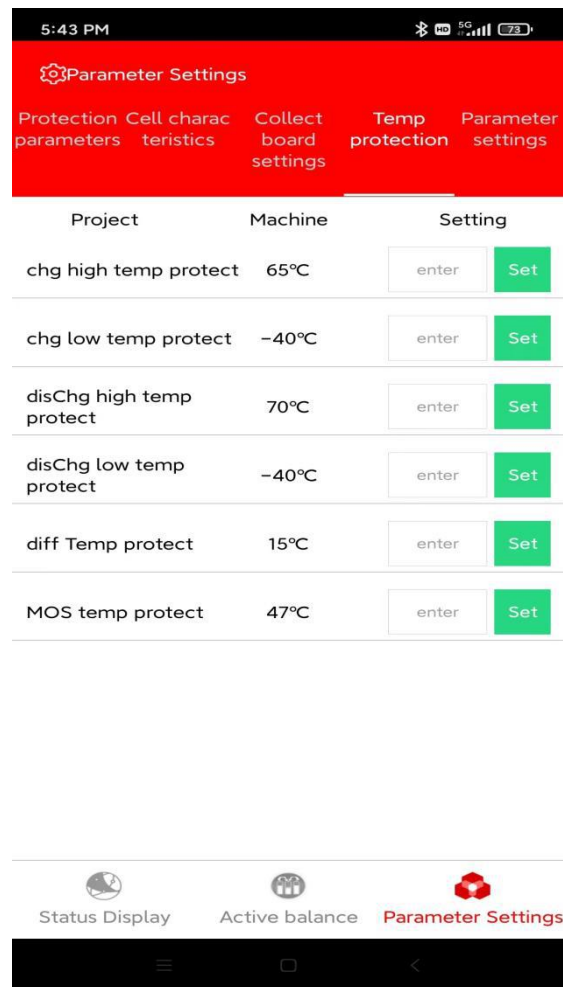

Figure 11. The Temp protection interface
8.1 Click the "Temp protection" parameter to enter the temperature protection parameter setting interface (Figure 11);